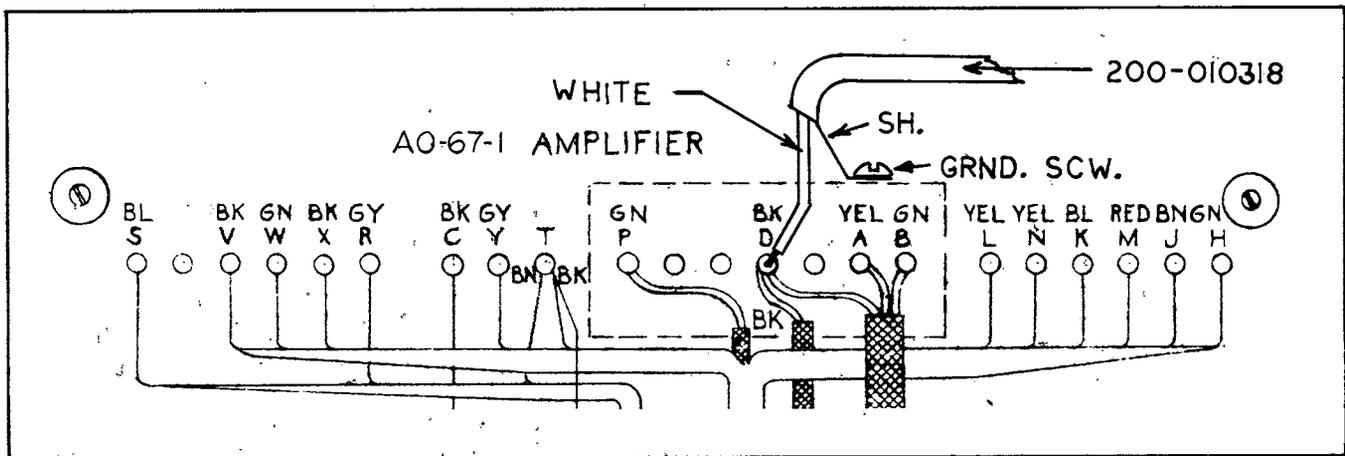

Figure A-11.
- d. Solder other ends of 200-010318 to amplifier terminals as shown in Figure A-11.